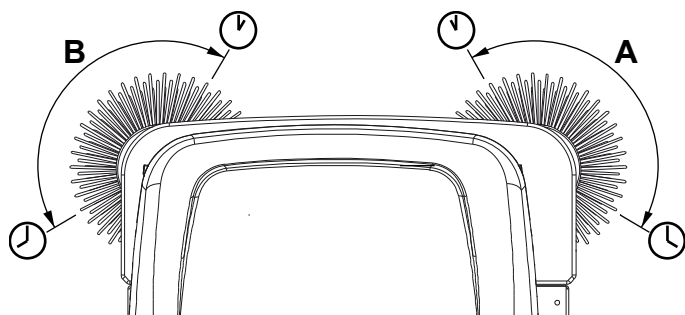

Figure 4
3. Turn the ignition key (65) and start the machine.
4. Lower the side broom with the lever (52) and let it run for 1 minute.
5. When lowered, the side broom (9) (15, optional) should be contacting the floor as shown in the figure (A and B, Fig. 4).